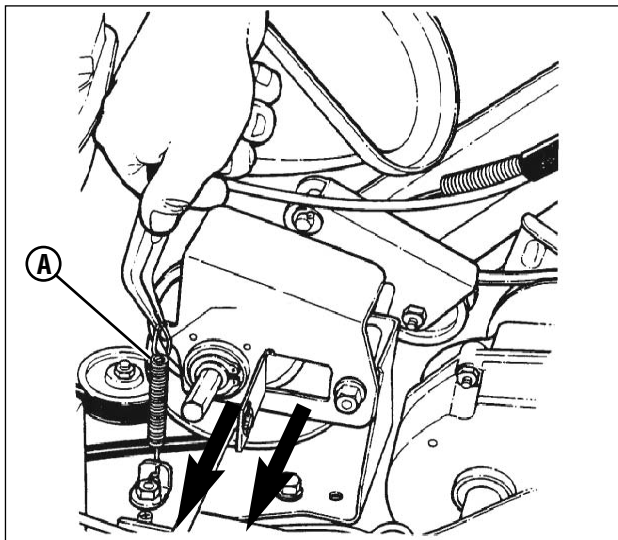

Figure 31: Removing the driven disc assembly
- Using needle nose pliers, unhook the drive spring (A, Figure 31) and slide the driven disc assembly off the hex shaft.